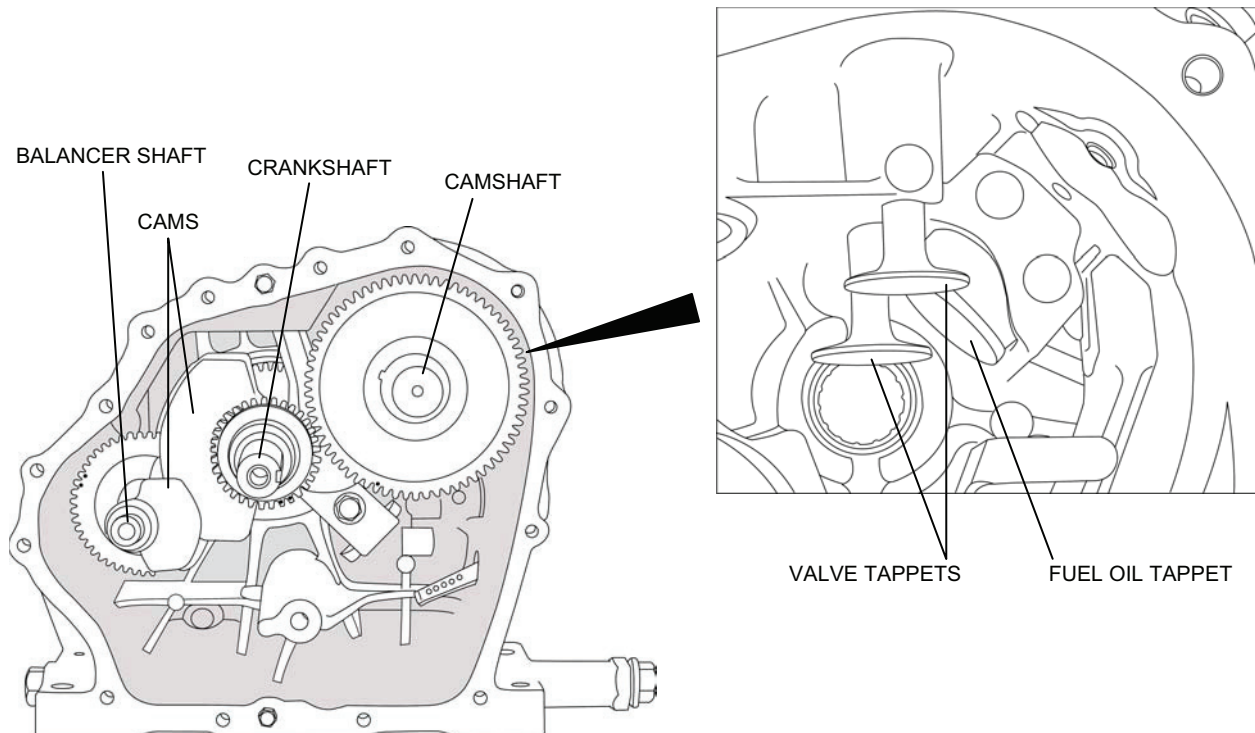

Figure 7. Camshaft, Valve and Fuel Oil Tappets, and Balancer Shaft Removal.
8. Remove the following components from inside the engine in order (see Figure 7):
If the cams on the crankshaft and the balancer shaft are overlapped, as shown in Figure 7, it will be necessary to turn the crankshaft until the cams are no longer overlapped before the balancer shaft can be removed.
10. Insert the fuel oil tappet into its sleeve (see Figure 7).
11. Insert the two valve tappets into their sleeves and push all the way in (see Figure 7)